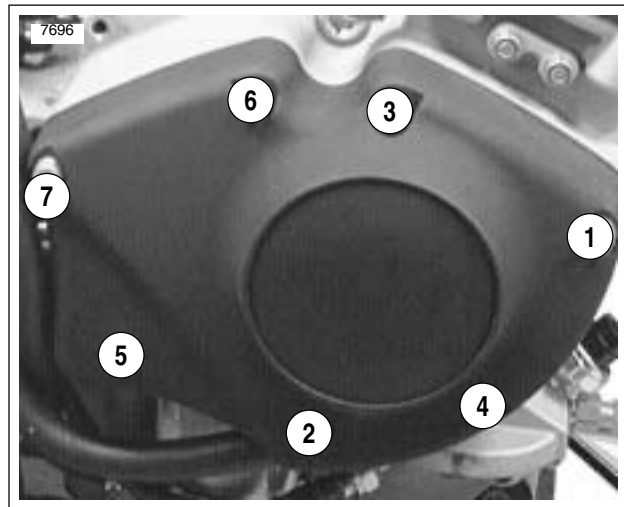

Figure 3-107. Gearcase Cover Mounting Screw Torque Sequence
5. See Figure 3-107. Install gearcase cover over all gears and onto right crankcase half. Secure cover to crankcase half with 7 socket head screws. Tighten screws evenly to 80-110 **in-lbs** (9-12 Nm). Use torque sequence as shown.